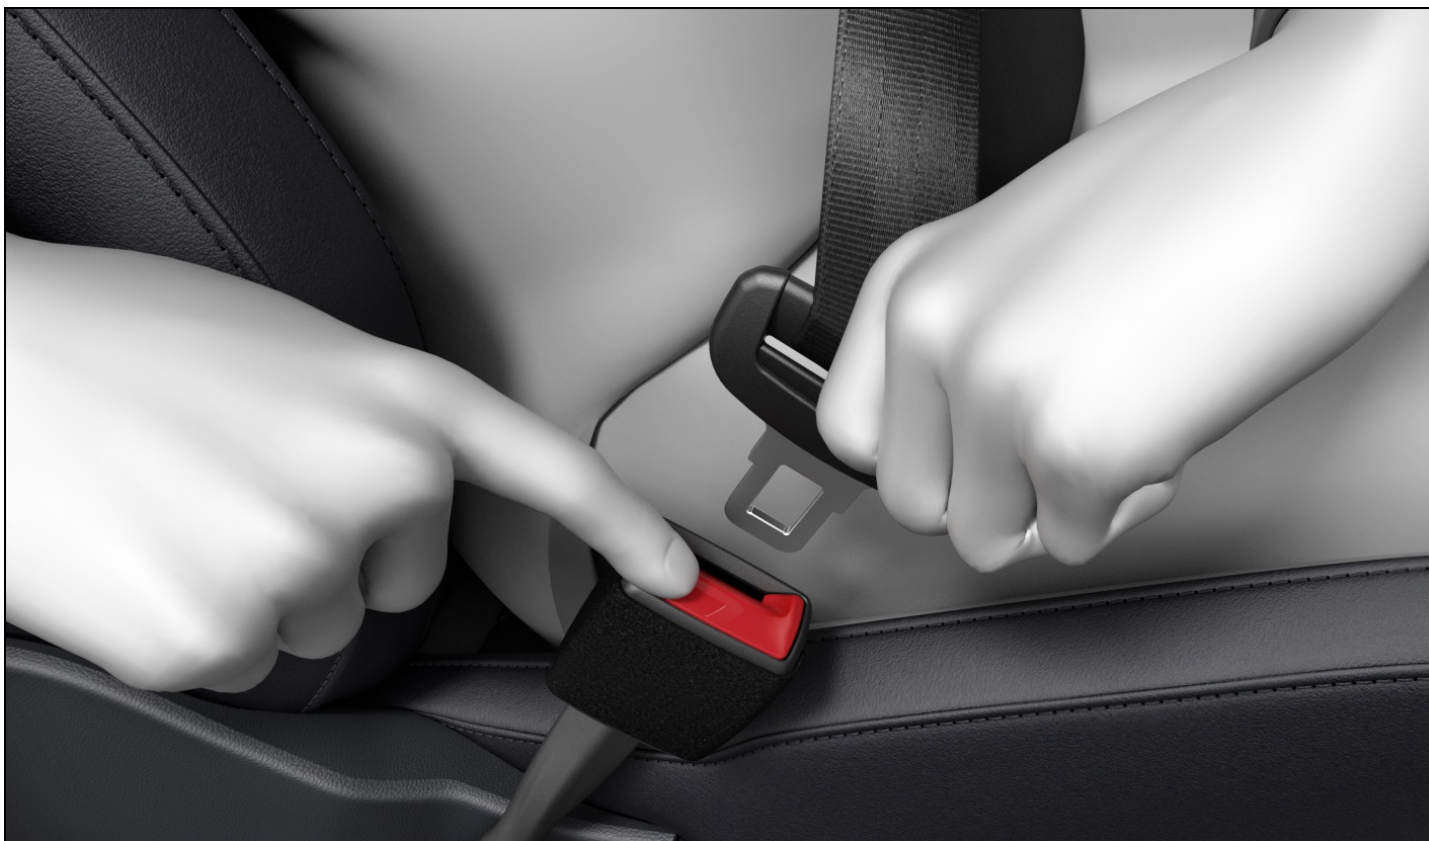

Fig. 31 Releasing the buckle tongue from the safety belt buckle (general example).
1. Press the red button in the safety belt buckle *fig. 31*.